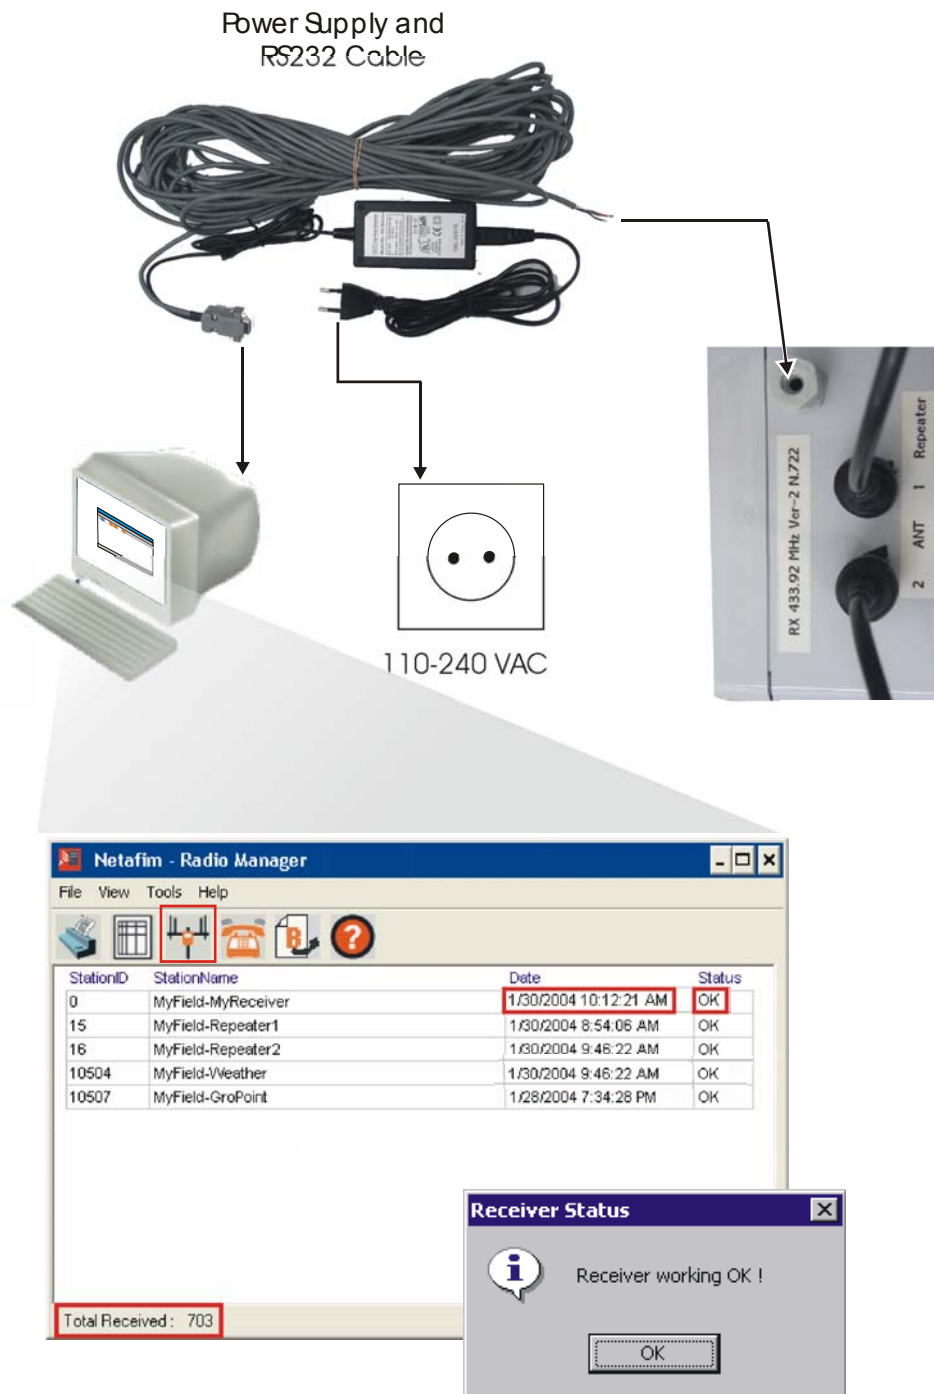

Figure 3-3. Receiver Check on Base Station PC
- e. Perform a receiver check in the Radio Manager window. Verify that the message **Receiver working OK** appears and the Total Received number progresses by four (Figure 3-3).